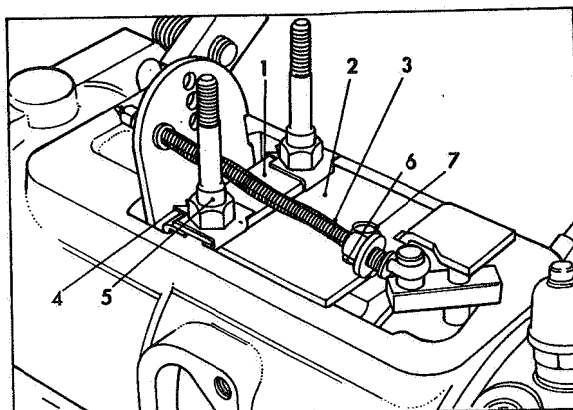

Fig 96 Fitting governor linkage
Position the keep plate (1) Fig 96 on the control bracket (2) so that the slotted end faces away from the linkage hook assembly (3). Position the two new tab washers (4) with the lips positioned nearest to the metering valve and engaging the long edge of the keep plate. Screw in the two governor control cover studs (5) and finger tighten. Place the bracket screw tab washer (6) in the correct position shown with the tail bent down over that edge of the control bracket lying under the hook of the linkage assembly. Insert new bracket screw (7) and tighten bracket screw and control cover studs to correct torque values. Lock all tabs.